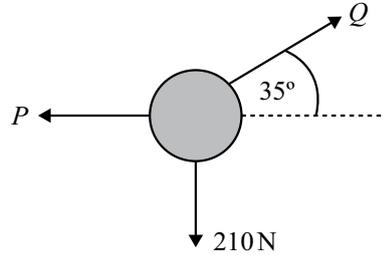

Fig. 5
- 6 (a) Fig. 5 shows a particle suspended in equilibrium. The particle is subjected to a vertical downward force of 210 N, a horizontal force of P N and a force of Q N acting at an upward angle of 35° to the horizontal.